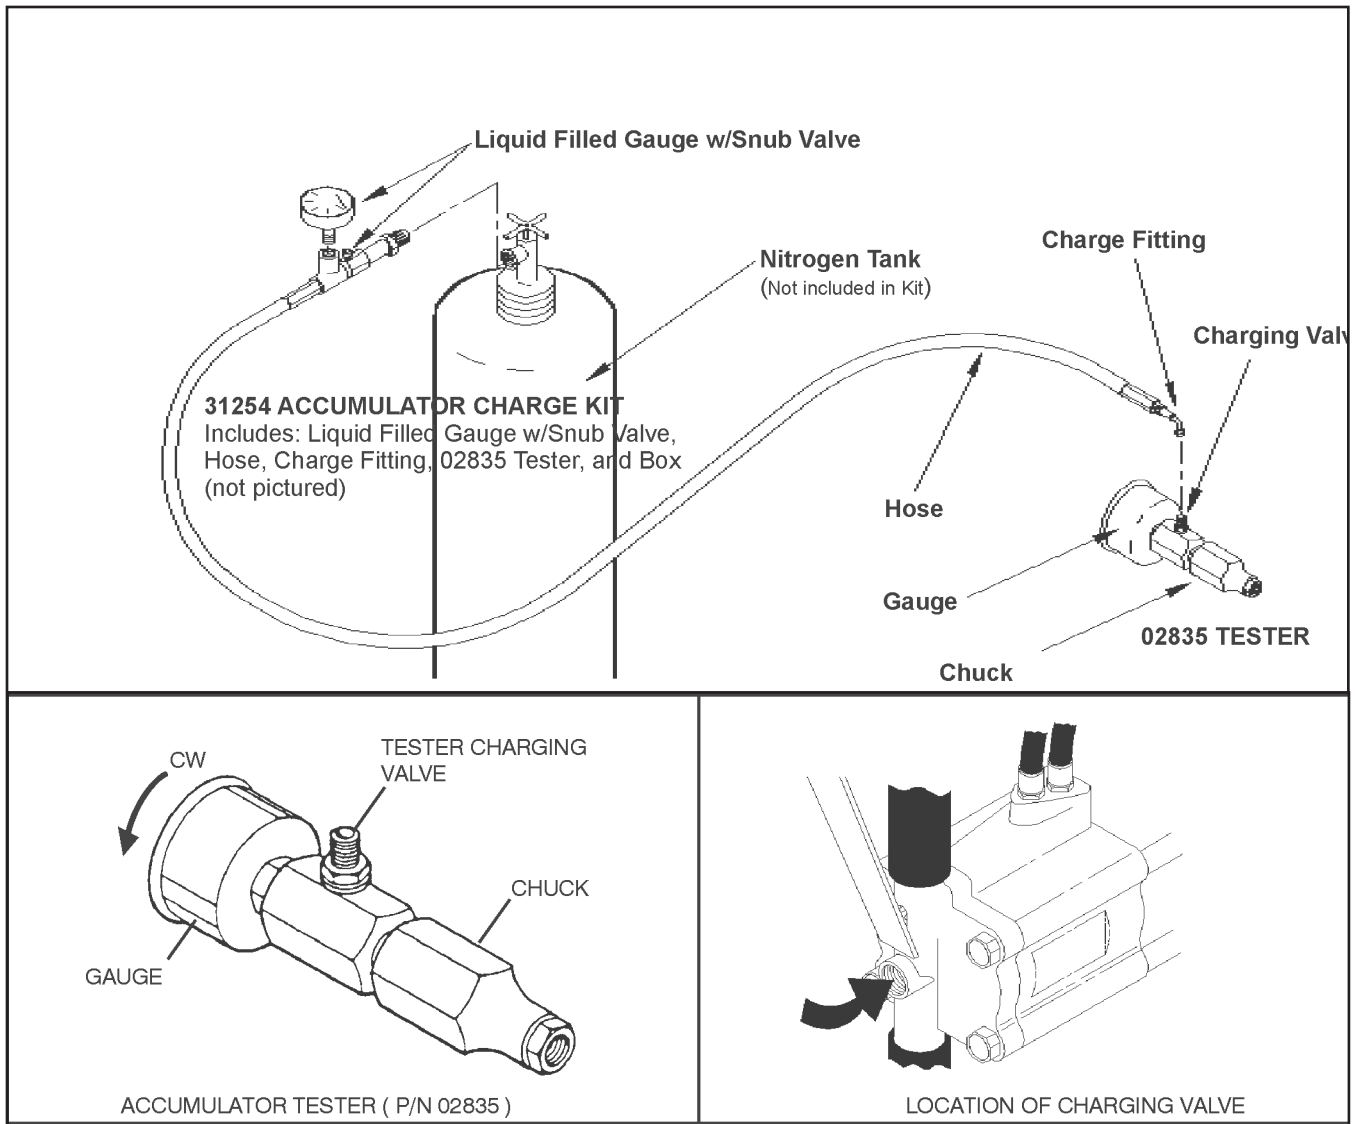

Figure 2. Charging the Accumulator
31254 Charge Kit: which includes the following (see Figure 2).
1. Remove the valve cap assembly from the sinker drill (see Figure 2 for location).